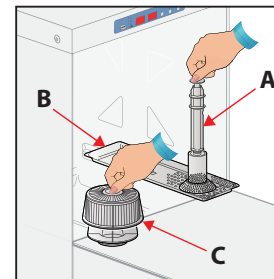

Fig.1
2. Leave the machine switched on. Open the door and remove the OVERFLOW PIPE (A) then close the door. Fig. 1
**DO NOT REMOVE THE GREY PLASTIC FILTERS (C) FIG. 1. THESE PREVENT SCRAPS OF FOOD GOING DOWN INTO THE DRAIN PUMP.**
3. Press and hold the Drain Pump button (4) for 1 second.
5. Open the door and remove the SURFACE FILTERS (B). Remove any food particles from the base of the wash tank and only then remove the plastic PUMP FILTER (C) for cleaning.
6. Refit the PUMP FILTER (C) and SURFACE FILTERS (B) and then the OVERFLOW PIPE (A) before next use.